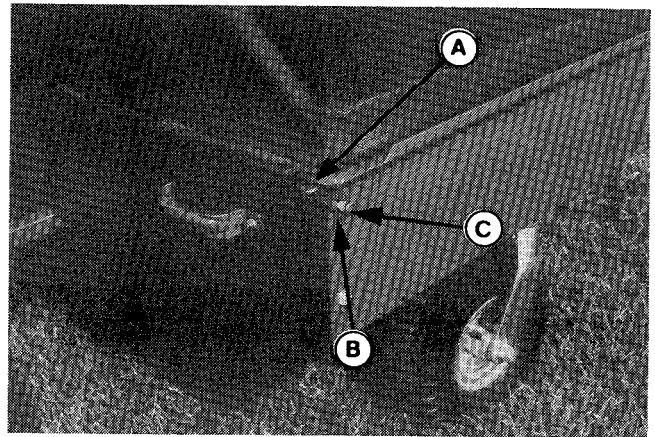

Figure 13.
- g. Pinch the black cord loop (B, figure 13) and thread it through the eyelet on each end of the rod. Next, pull the loop over the top bolt (C) on each side of the box. The rod gives added support to the cover at the front of the box.